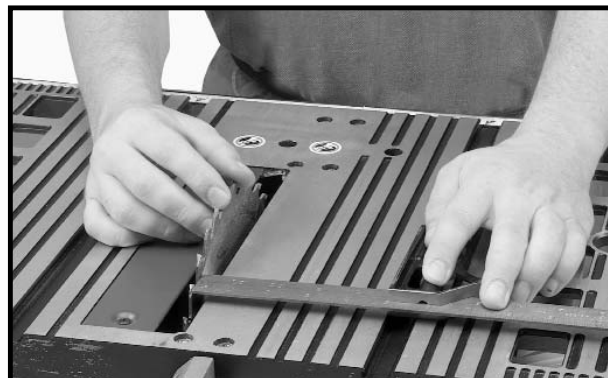

Fig. 39
4. Rotate the blade and check the same marked blade tooth at the rear of the saw table (Fig. 39).